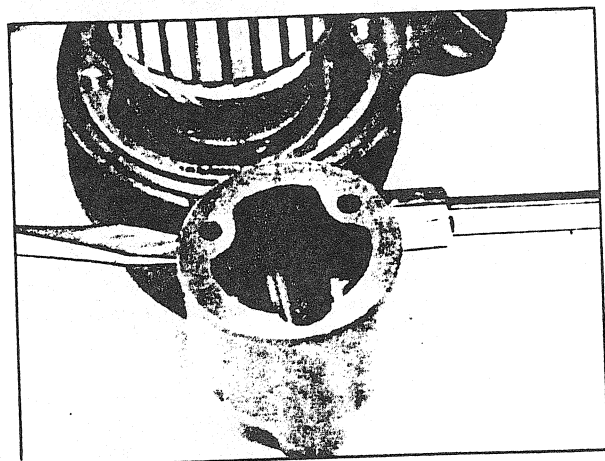

FIGURE 15
- Screw the pivot bolt of the shift lever securely in the drive housing. (Fig. 15).